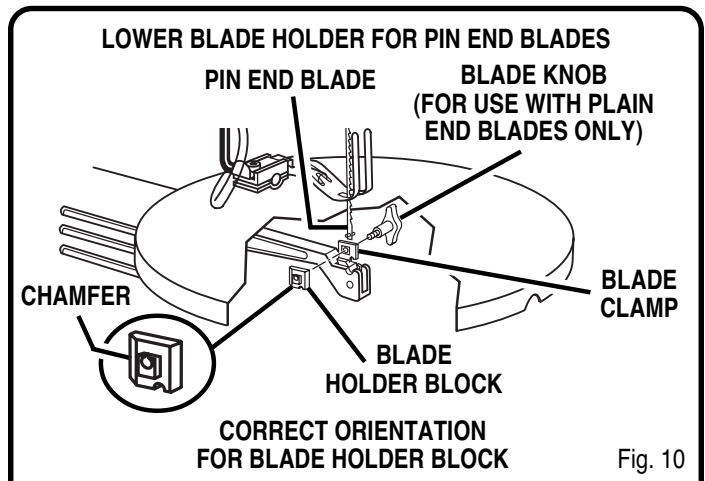

Fig. 10
See Figures 10 and 11.
- Place blade through the opening with the teeth of the blade to the front of the saw and pointing down toward the table. Engage the pin into the "V" notch of the lower blade holder. See Figure 10.